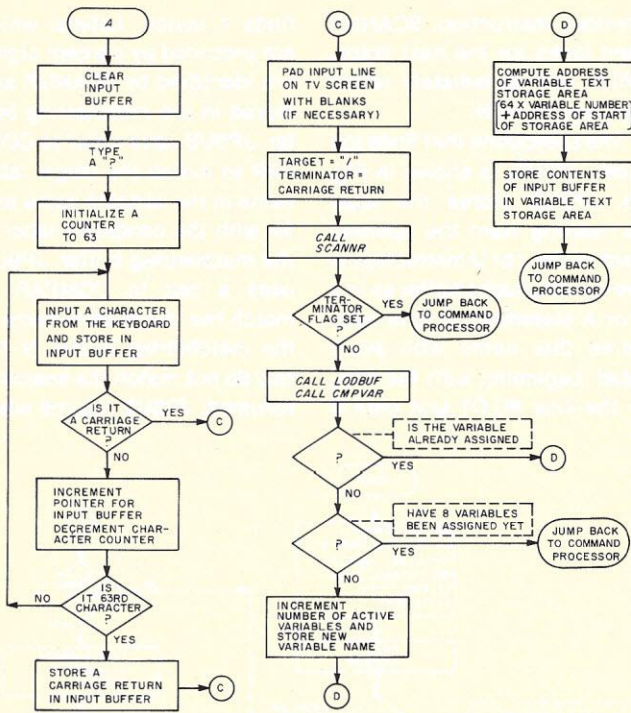

Fig. 4. The A instruction processor.
Fig. 4 is a flowchart of the **A** instruction processor. Conceptually, the processor performs six tasks: (1) It clears the 64 character input buffer. (2) It fills the input buffer from the keyboard. (3) It checks the operand field of the **A** statement to see if the contents of the input buffer are to be stored as a variable. (4) If so, it compares the variable name to those already in use to see if an old variable is being refilled. (5) If necessary, it stores the new variable name and increments the number of active variables. (6) It stores the contents of the input buffer in the first free 64-byte block of the variable text storage area.